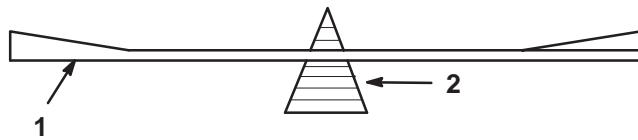

Figure 30
- Check the balance of the blade by putting it on a blade balancer (Fig. 30). If the blade stays in a horizontal position, the blade is balanced and can be used. If the blade is not balanced, file some metal off of the back side of the blade. Repeat this step until the blade is balanced.